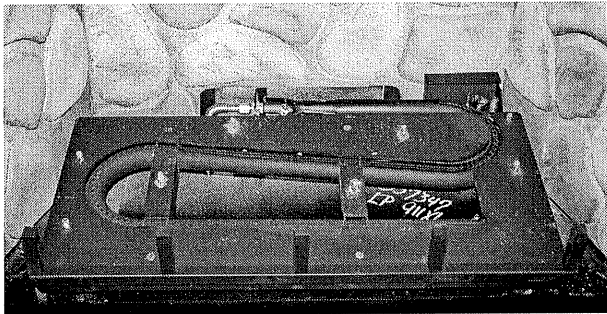

Figure C-2
- A) Loosen and remove the 2 nuts securing the burner cover. Remove the burner cover by lifting the front of the cover up then sliding it to the right, off the burner orifice. Remove entire assembly from the firebox. See figures C-2 & C-3 below.